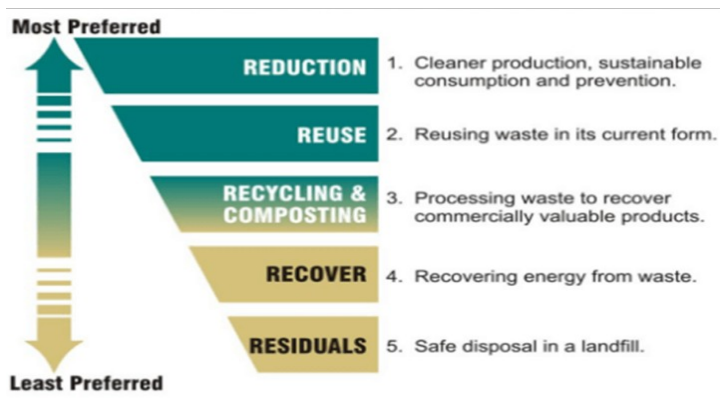

Fig. 9.1: e-waste Management Process
- The basic waste management hierarchy is shown below in Figure 9.1.